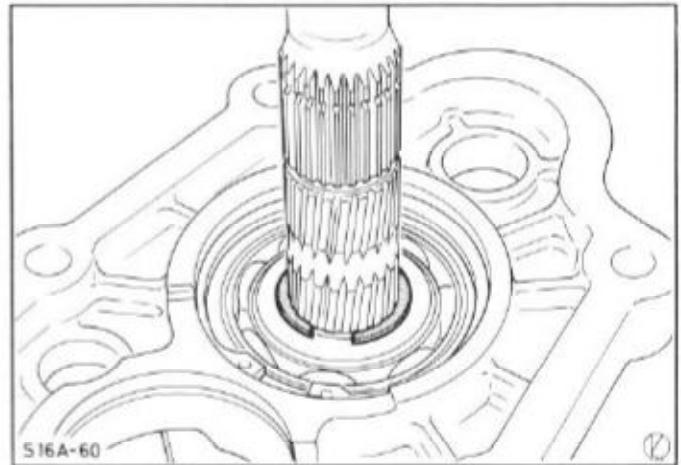

Fig.128. Detach intermediate housing from the mainshaft.
27. Detach the intermediate housing from the mainshaft (1 snap ring), Fig.128